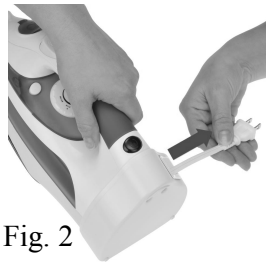

Fig. 2
- To unwind, simply pull the cord to desired length. Do not try to unwind cord beyond its maximum capacity (See : Fig. 2)